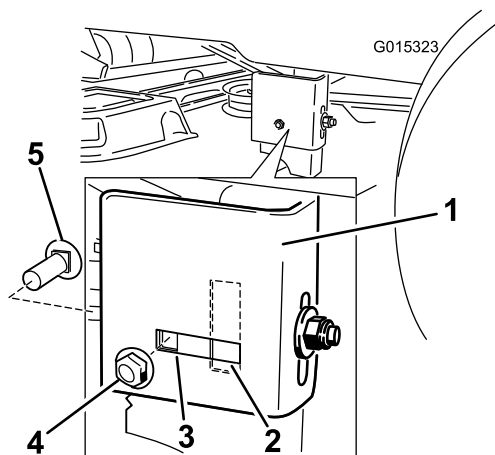

Figure 52
9. Loosen the rear locking nut on the hanger bracket just enough to move the bracket (Figure 52).
11. Stop the deck at the adjusted position and tighten the rear locking nut on the hanger bracket to hold the new position (Figure 52). Tighten the side locking nut on the hanger bracket.